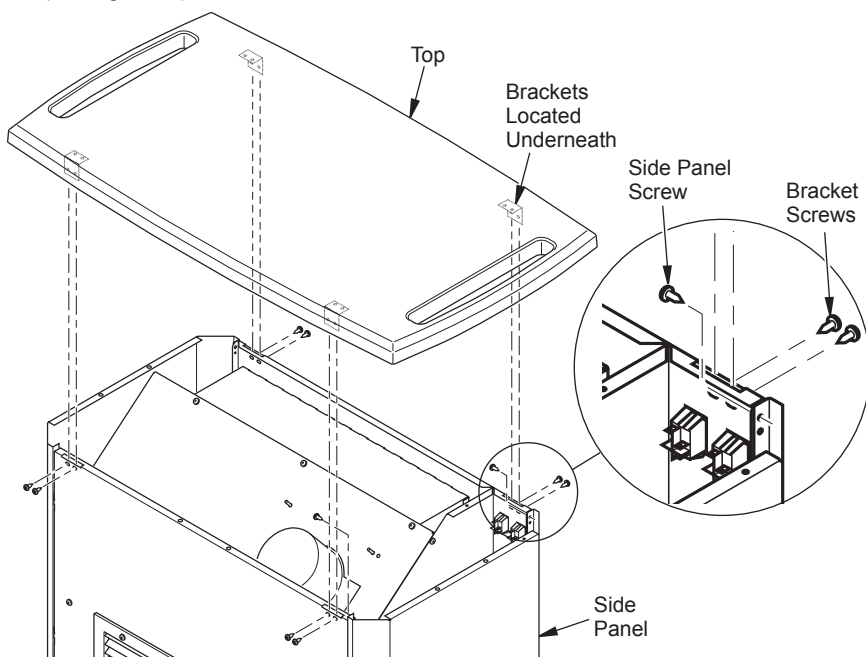

Figure 10 - Removing Top and Side Panel
1. Remove 8 screws securing top brackets to body panels. Remove top and set aside (see Figure 10).
2. Remove 2 screws securing side panel at top edge. Remove 3 screws at lower outside edge (see Figure 10). Push down and lift out side panel.